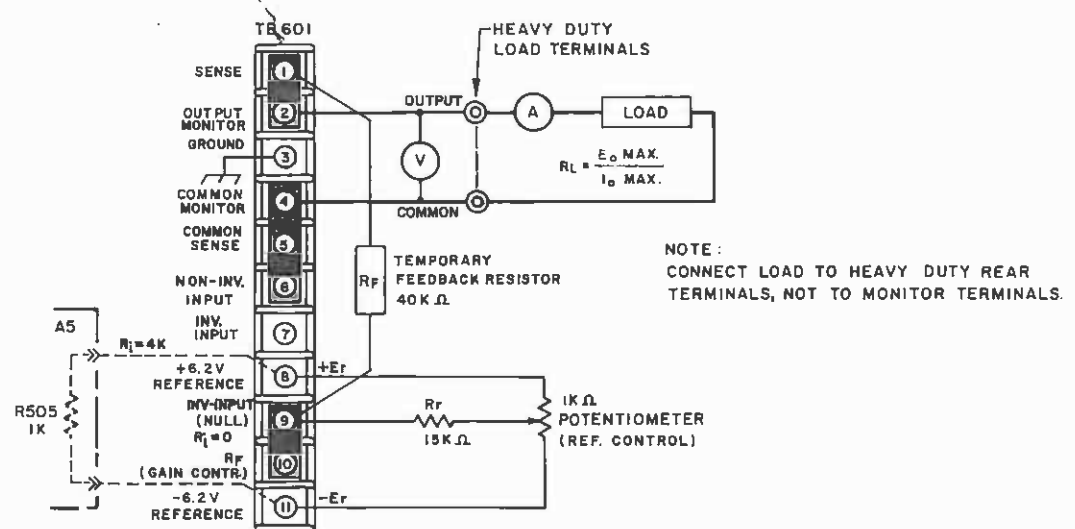

FIG. 2-6 TEST SETUP FOR PRELIMINARY CHECK ON UNMETERED BOP MODELS
- 1) CIRCUIT BREAKER/POWER SWITCH "off." Connect a 1 K ohm potentiometer ("REF." control), a temporary feedback resistor ($R_f = 40 \text{ K ohms}$) the external metering and the load to the BOP rear terminals as shown in FIG. 2-6 below. Disconnect ballast resistor R505 (located on A5, see FIG. 6-3). This resistor is mounted on turret lugs for convenient access. It may be removed completely if an external "REF." control is used permanently.
- 3-2 GENERAL. Kepco Bipolar Operational Power Supplies (BOP) can be locally controlled either by means of built-in front panel controls (models with suffix "M" only) or with external controls connected to the rear barrier-strip (all models). Two basic methods of locally controlling the d-c output voltage have been briefly described in the previous section. (See "Preliminary Electrical Check," par. 2-17.) These two methods may be used separately or combined. If the "REF." control is set either fully clockwise or counterclockwise (by means of the internal or external potentiometer), a negative or positive control current (I_b) of approximately 0.4 mA is produced. (Refer to Section II, FIG. 2-6)